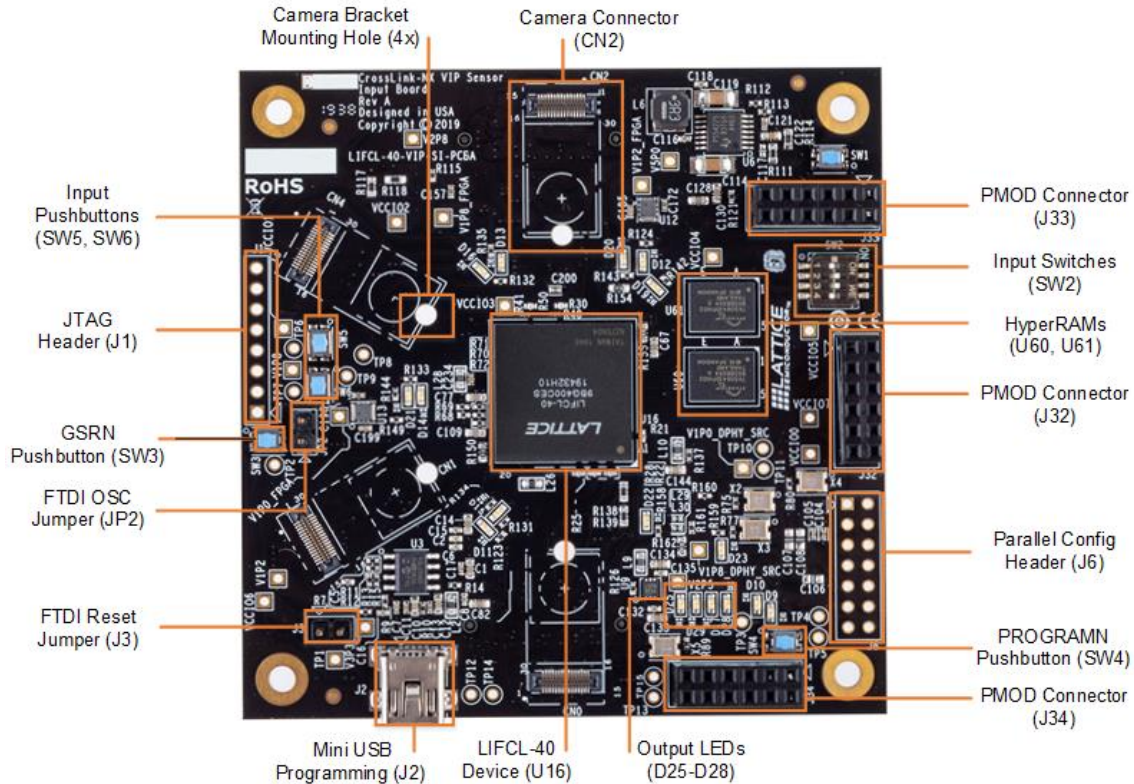

Figure 4.5. CrossLink-NX Flashing Switch – SW4 Push Button
7. Press the **SW4** push button switch before clicking the **PROGRAMN** button as shown in Figure 4.5. Keep it pressed until you see the *Successful* message in the Radiant log window.